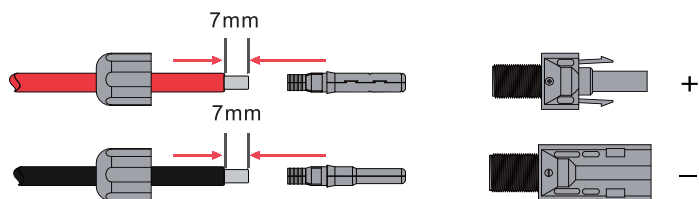

Figure 4.1-1 Pv cables and pv plugs
**Setp 1.**Strip the insulation of the PV wire by 7mm,disassemble the cap nut of the connetctor, thread one PV wire through the cap nut of the connector. Repeat this operation with all the PV wires, paying special attention to the polarity of the connector,as shown in Figure 4.1-1.